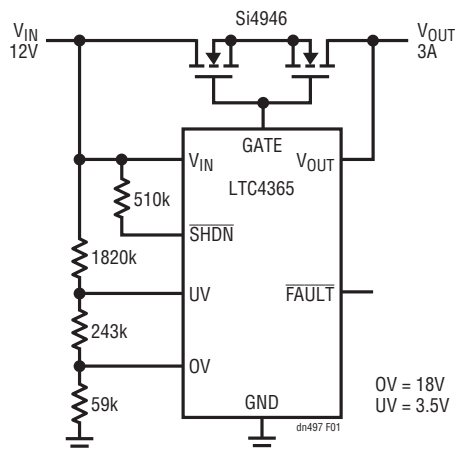

Figure 1. Complete 12V Automotive Undervoltage, Overvoltage and Reverse-Supply Protection Circuit
Figure 1 shows a complete application. A resistive divider sets the overvoltage (OV) and undervoltage (UV) trip points for connecting/disconnecting the load from V_{IN} . If the input supply wanders outside this voltage window, the LTC4365 quickly disconnects the load from the supply.
Figure 2 shows how the circuit of Figure 1 reacts as V_{IN} slowly ramps from -30V to 30V . The UV and OV thresholds are set to 3.5V and 18V , respectively. V_{OUT} tracks V_{IN} when the supply is inside the 3.5V to 18V window. Outside of this window, the LTC4365 turns off the N-channel MOSFET, disconnecting V_{OUT} from V_{IN} , even when V_{IN} is negative.